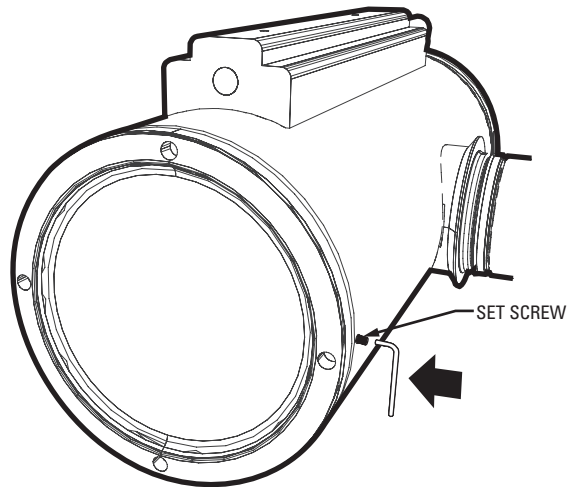

Figure 4. Loosen Set Screw
1. Refer to Figure 4. Loosen the set screw at the back of the camera enclosure with the provided 1.5 mm Allen wrench.